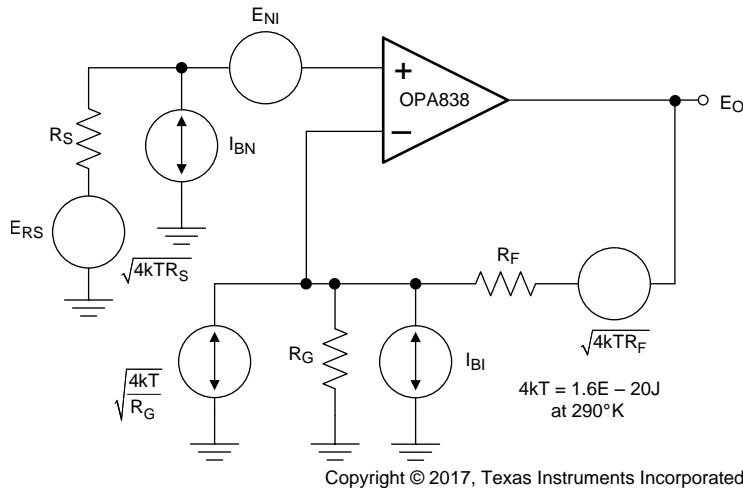
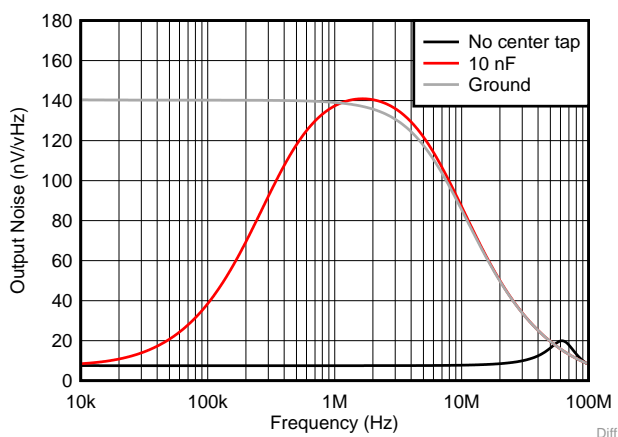

Figure 76. Op Amp Noise Analysis Model
Figure 78. Common-Mode Output Noise for Differential I/O Design
The decompensated voltage feedback of the OPA838 op amp offers among the lowest input voltage and current noise terms for any device with a supply current less than 1 mA. Figure 76 shows the op amp noise analysis model that includes all noise terms. In this model, all the noise terms are shown as noise voltage or current density terms in nV/ $\sqrt{\text{Hz}}$  or pA/ $\sqrt{\text{Hz}}$ .
The total output spot noise voltage is computed as the square root of the squared contributing terms to the output noise voltage. This computation is adding all the contributing noise powers at the output by superposition, then taking the square root to return to a spot noise voltage. Equation 3 shows the general form for this output noise voltage using the terms presented in Figure 76.
A high-gain differential-to-differential I/O circuit can be used to drive a second-stage FDA or a differential-to-single-ended stage. This circuit is frequently used in applications where high input impedance is required (for example, if the source cannot be loaded). Figure 76 shows an example design where the differential gain is 41 V/V. An added element between the two  $R_G$  resistors increases the noise gain for the common-mode feedback. It is important to provision for the added element because a decompensated VFA (like the OPA838) often oscillates without it in this circuit. With only the  $R_G$  elements in the differential I/O design, the common-mode feedback is unity-gain and often causes high-frequency, common-mode oscillations. To resolve this issue, split the  $R_G$  elements in half and add a low-impedance path such as a capacitor or a DC reference between the two  $R_G$  values.
- Assess the DC common-mode biasing on the noninverting inputs. The DC biasing must be in range and have a gain of 1 to the output. This is not shown in Figure 76
- If a DC reference is used as the mid- $R_G$  bias, setting the reference equal to the noninverting input bias voltage sets the output common-mode to that voltage. Using a capacitor as shown in Figure 76 accomplishes the same results.
- Simulate the common-mode noise with different elements on the  $R_G$  center tap, as shown in Figure 78. Decide which is most appropriate to the application.
The common-mode loop instability without the  $R_G$  center tap is not often apparent in the closed-loop differential simulations. It can often be detected in a common-mode output noise simulation as Figure 78 shows. Grounding the inputs Figure 77 and running a output noise simulation for the common-mode tap point in Figure 76 shows a peaking in the noise at high frequency. This peaking indicates low-phase margin for the common-mode loop. Figure 78 shows this peaking in the lowest noise curve, with two options for improving phase margin. The first option used in Figure 77 is a capacitor to ground set to increase the common-mode noise gain only at higher frequencies. This can be seen by the peaking in the common-mode noise of Figure 78. Another alternative is to provide a DC voltage reference on the  $R_G$  center tap. This raises the common-mode noise gain from DC on up in frequency. Neither of these latter two show any evidence of low phase margin peaking. They do increase the output common-mode noise significantly at lower frequencies. Typically, an increase in output common-mode noise is more acceptable than low-phase margin as the next stage (FDA, ADC, differential to single stage) rejects common-mode noise.